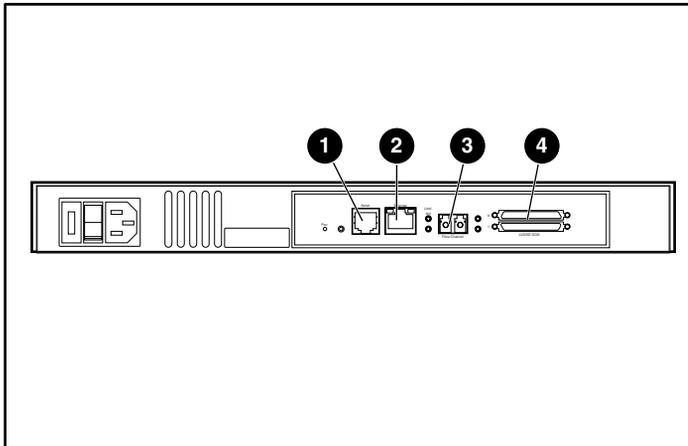

Figure 3-2: Back-side port locations
Figure 3-2 is an illustration of the port locations on the router.
1. Locate the Fibre Channel port on the back-side of the router. Refer to Figure 3-2 for an illustration of the fibre channel port located on the back-side of the router.
2. Locate the SCSI buses. Refer to Figure 3-2 for an illustration of the SCSI buses located on the back-side of the router.
Refer to Figure 3-2 for an illustration of the serial port location on the back-side of the router.